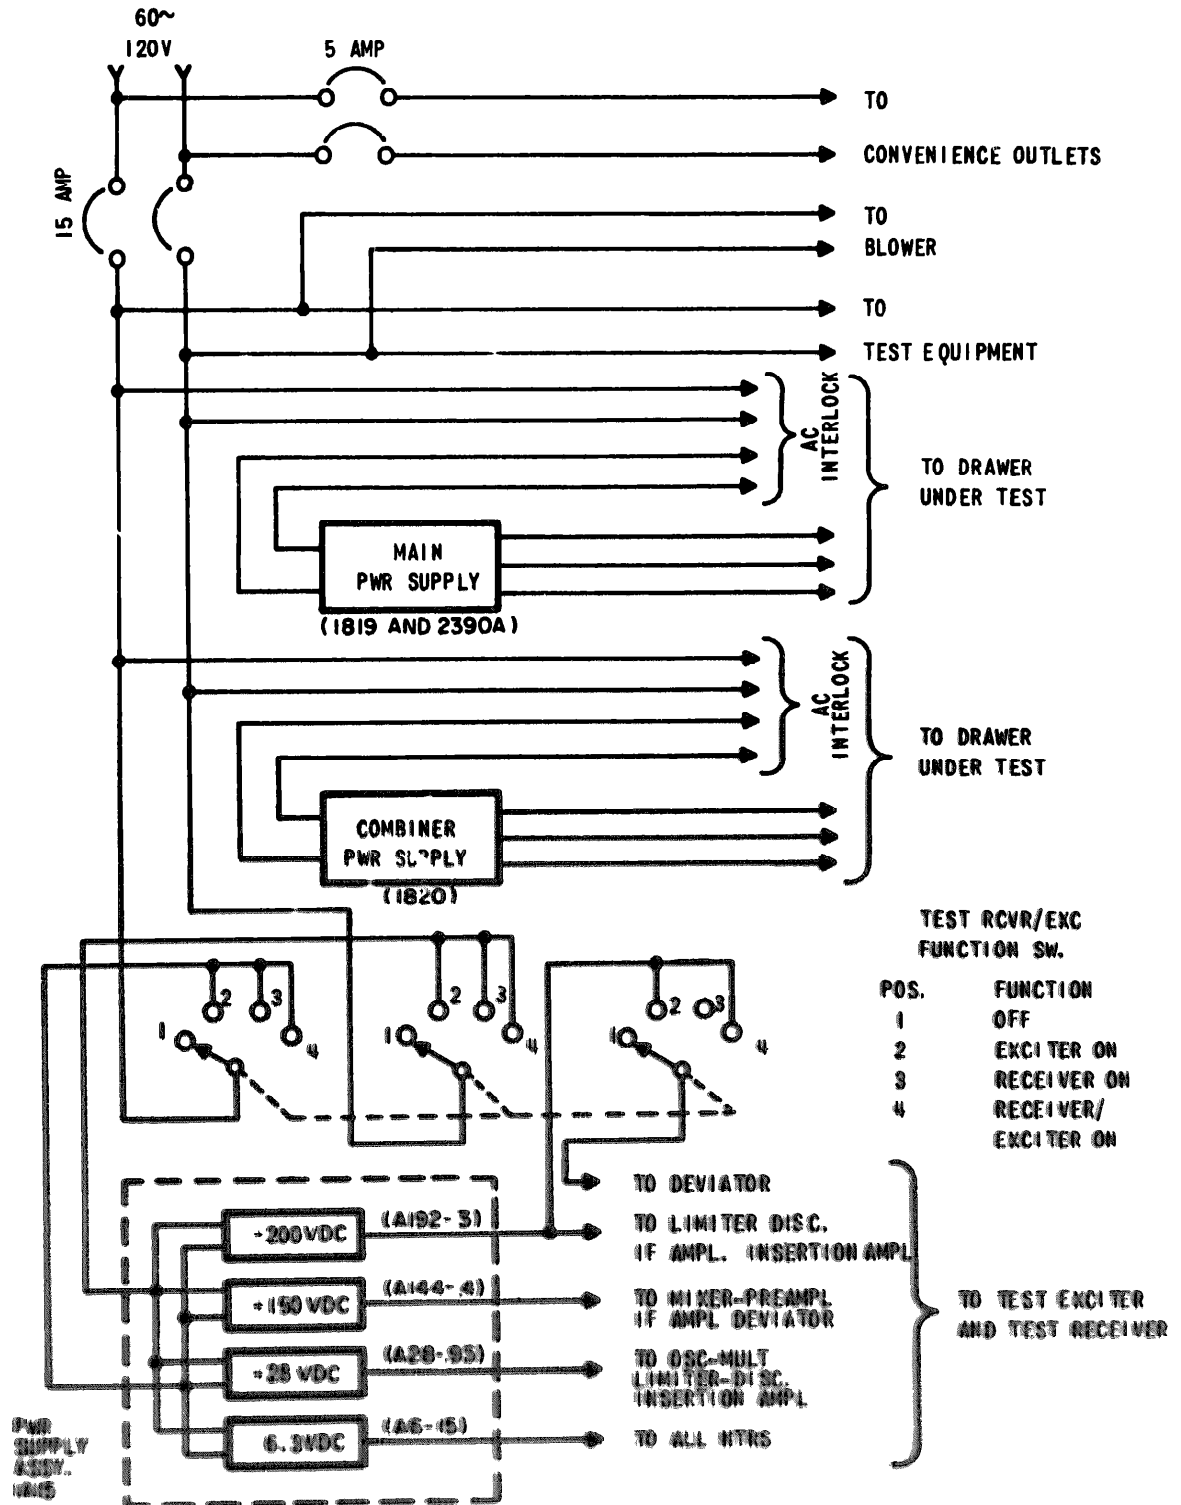

Figure 4-3. Block Diagram of Power Distribution System and Combined Power Supply Assemblies
4. 2. 3. 1 Power Distribution. - The primary power for the Maintenance Test Facility is obtained from a 120-volt, 60-cps power source rated at 16 amperes (figure 4-3). Two circuit breakers, located on the test panel, control the power supplied to the individual circuits. The first circuit breaker, with a 15-ampere capacity, controls the main power input to all the equipment located in the Maintenance Test Facility. The normal current drawn from this line is about 11 amperes. The second circuit breaker, rated at 5 amperes, controls the main power input to the convenience outlets located at the front base of the test facility. The total current drawn from the primary power line is between 11 and 16 amperes depending on the load connected to the convenience outlets. For a complete wiring diagram of the power distribution system, refer to figure 7-4.
4. 2. 3. 2. 1 Power Supply Assembly (368-419973). - The Power Supply Assembly (figure 4-3) contains four power supplies which provide operating voltages of +200 vdc, +150 vdc, +28 vdc, and 6.3 vdc for the Test Exciter and Test Receiver assemblies. The TEST RCVR/EXC FUNCTION switch controls all four power supplies. When this switch is in the OFF position, no primary power is applied to the Power Supply Assembly. When the switch is turned to the EXC, RCVR, or RCVR/EXC position, primary power is applied to the assembly, and the Test Receiver is energized along with portions of the Test Exciter circuitry. When the function switch is in the EXC or RCVR/EXC position, +200 vdc is supplied to the 70-mc deviator assembly.
namely, the Main Power Supply and the Combiner Power Supply (figure 4-3). The Main Power Supply furnishes power for an LRC-3 receiver or exciter drawer, while the Combiner Power Supply provides power for a combiner drawer. Note that the a-c input of each supply is interlocked with the drawer under test. This precaution is taken to prevent damage to the power supplies resulting from operation without the proper load. In particular the 200-vdc portion of the Main Power Supply requires a load of 100 to 300 ma.